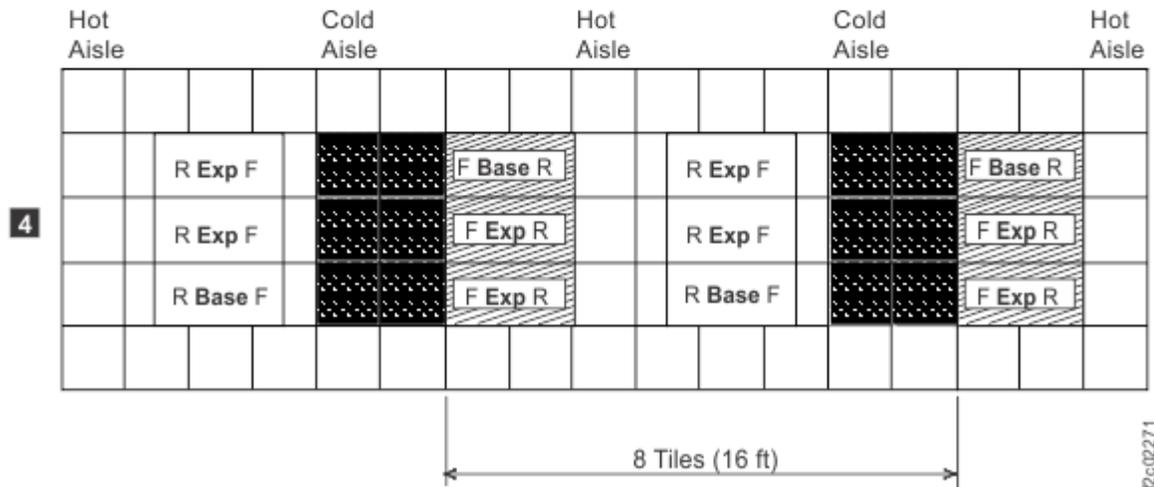

Figure 32. DS8880 layouts and tile setup for cooling
- a. For stand-alone base frames, install two fully perforated tiles in front of each base frame, as shown in Figure 32 on page 156 in the single-machine examples (**1** and **2** in the figure).
- b. For a row of storage systems, install a row of perforated tiles in front of the storage systems as shown in Figure 32 on page 156 (**3** in the figure).
- c. For groupings of storage systems, where a hot aisle/cold aisle layout is used, use a cold aisle row of perforated tiles in front of all storage systems. An example of a possible minimal arrangement is shown in Figure 32 on page 156 (**4** in the figure).
**Note:** Keep in mind that the example represented in Figure 32 on page 156 meets service clearance requirements. However, floor loading requirements might require a wider hot aisle to provide up to 30 inches of non-overlapping clearance (for total of 60 inches between the rear side of the frames on either side of the aisle.)